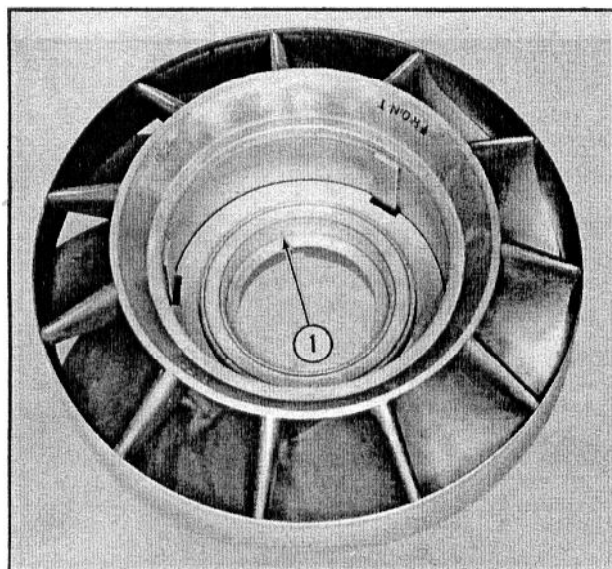

Fig. 10 — Installing the Stator Thrust Washer
5. Position a stator thrust washer in the stator, with the counterbored side up, as shown in Fig. 10.